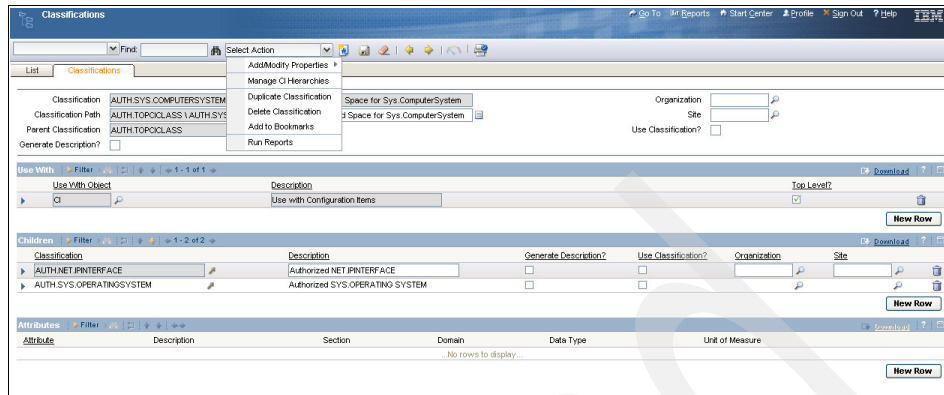

Figure 5-8 Classifications
- ▶ First, query your top level authorized classifications using the classification application. In our example, we have only one top-level classification, AUTH.SYS.COMPUTERSYSTEM. It is shown in Figure 5-8 on page 121. In order to map the authorized classification to the actual one, you have to select the **Manage CI Hierarchies** from the Action menu.